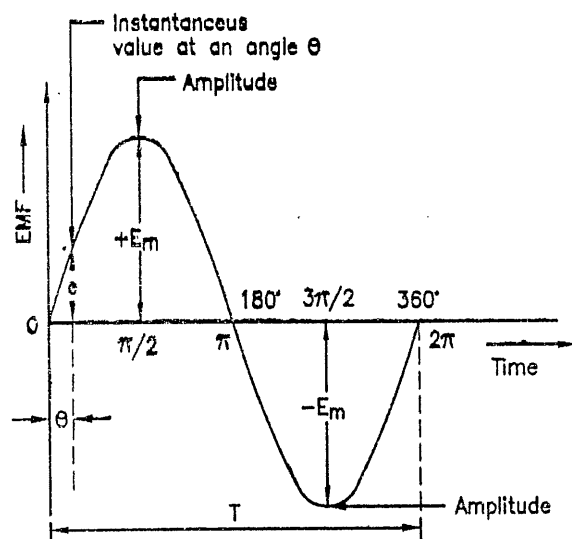

FIG. 2.5 : INSTANTANEOUS VALUE
- The maximum value of voltage and current is denoted by E_m and I_m . (Ref. Fig. 2.5)